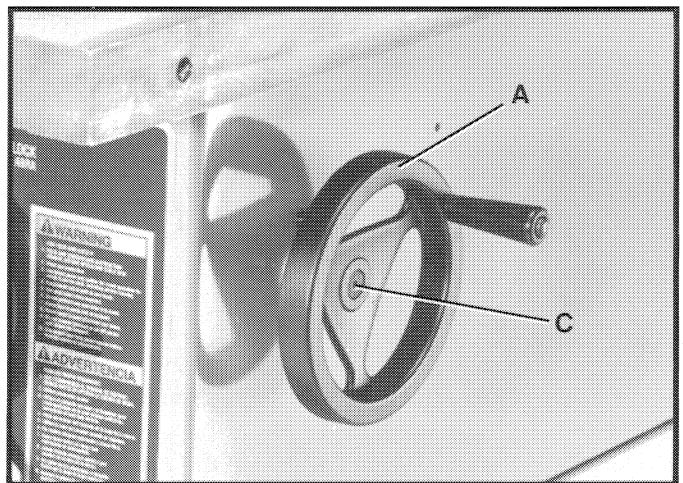

Fig. 11
2. Fasten blade tilting handwheel (A) Fig. 11, to the shaft using the 3/4" long hex socket flat head screw (C).